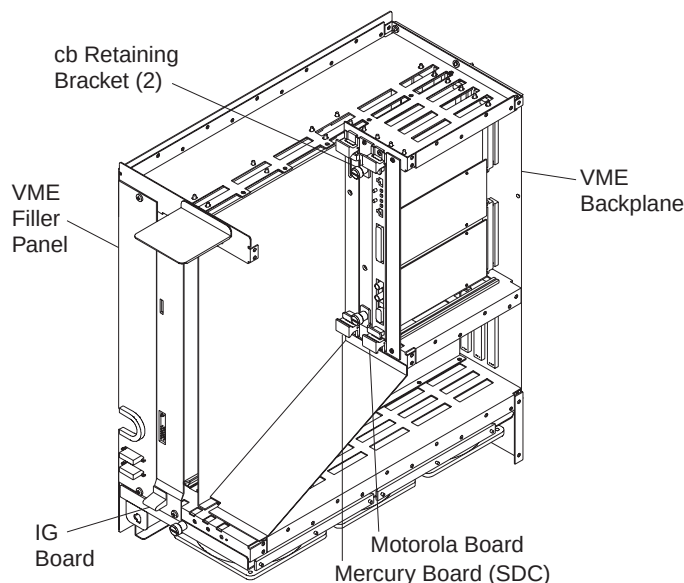

Figure 4 Removable Card Cage Assembly
Purpose: Because the Scan Data Corrections (Mercury) board is eliminated via this procedure, additional jumpers must be added to the VME backplane. This means that all of the boards must be removed from the card cage assembly (Figure 4), so that the backplane itself may be removed for the installation of said jumpers. This section steps through the removal of parts to gain access to the VME backplane. Removal of the VME card cage is not required.
- 7.) Loosen the thumbscrews, and remove the two (2) circuit board retaining brackets (Figure 7) from within the card cage (see Figure 4 for location). These brackets will not be reused.